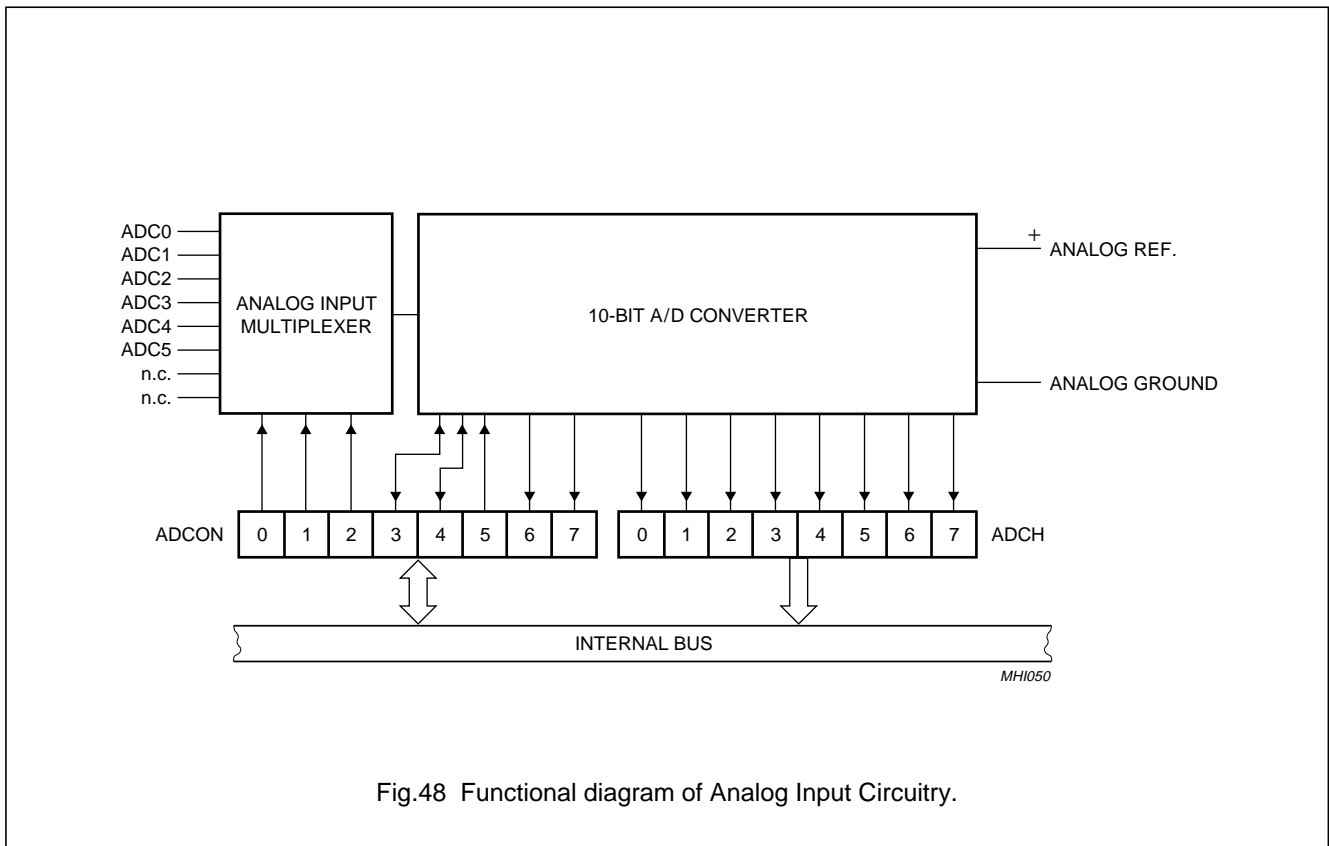

Fig.48 Functional diagram of Analog Input Circuitry.
The analog input circuitry consists of an 6-input analog multiplexer and a 10-bit, straight binary, successive approximation ADC. The A/D can also be operated in 8-bit mode with faster conversion times by setting bit ADC8 (AUXR1.7). The 8-bit result will be contained in the ADCH register. The analog reference voltage and analog power supplies are connected via separate input pins. For 10-bit accuracy, the conversion takes 50 machine cycles, i.e., 25 μ s at an oscillator frequency of 12 MHz. For the 8-bit mode, the conversion takes 24 machine cycles. Input voltage swing is from 0 V to +5 V. Because the internal DAC employs a ratiometric potentiometer, there are no discontinuities in the converter characteristic. Figure 48 shows a functional diagram of the analog input circuitry.
Figure 48 shows the elements of a successive approximation (SA) ADC. The ADC contains a DAC which converts of a successive approximation register to a voltage (VDAC) which is compared to the analog input voltage (V_{IN}). The output of the comparator is fed to the successive approximation control logic which controls the successive approximation register. A conversion is initiated by setting ADCS in ADCON register. ADCS can bet set by software only.
otherwise the bit being tested is cleared. This process is repeated until all ten bits have been tested, at which stage the result of the conversion is held in the successive approximation register. Figure 48 shows a conversion flow chart. The bit pointer identifies the bit under test. The conversion takes four machine cycles per bit.
Figure 48 shows how the ADC is realized. The ADC has its own analog ground (AV_{SS}) and a positive analog reference pin (V_{ref+}) connected to each end of the DAC's resistance-ladder. The ladder has 1023 equally spaced taps, separated by a resistance of "R". The first tap is located $0.5 \times R$ above AV_{SS} , and the last tap is located $1.5 \times R$ below V_{ref+} . This gives a total ladder resistance of $1024 \times R$. This structure ensures that the DAC is monotonic and results in a symmetrical quantization error is shown in Figure 48.